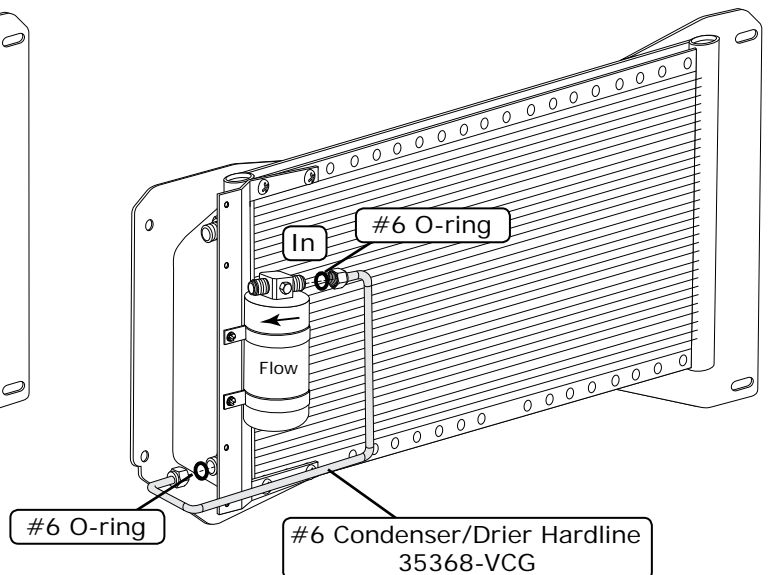

Figure 2
4. Install the #6 condenser/drier hardline as shown in Figure 2, below.